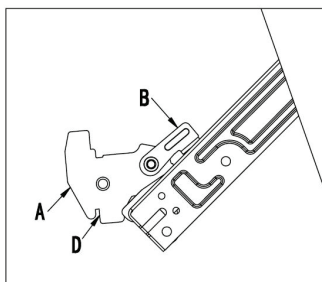

Fig. 4
- Open the door completely and lift the 2 levers “B” (fig.4);